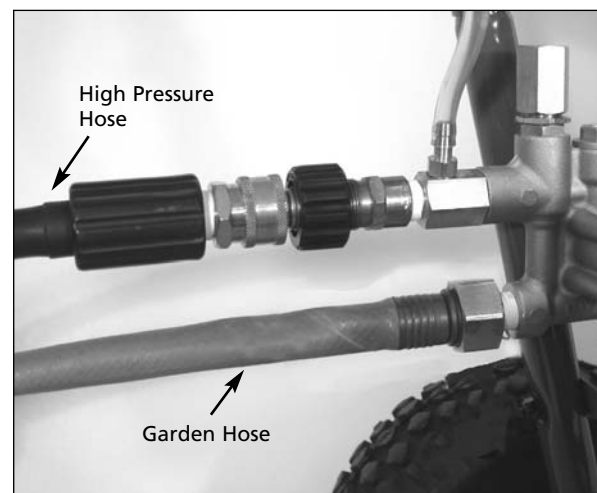

Figure 4 - Connect high pressure hose to pump
4. Connect the high pressure hose to the pump outlet (See Figure 4).